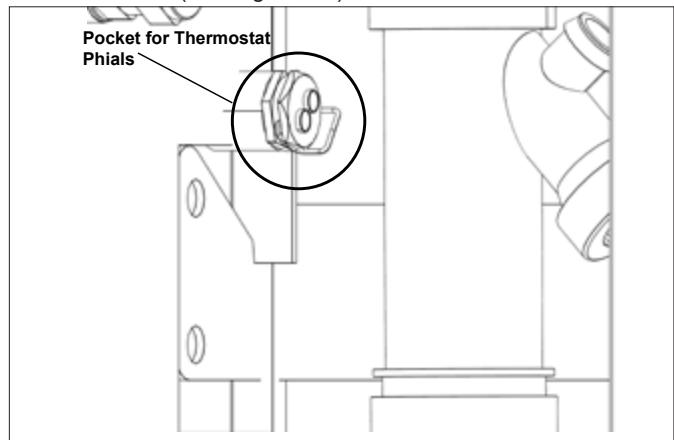

Figure 4-2: Removing thermostat phials
7. Remove retaining clip and thermostat phials from their pocket in the right side of heat exchanger – below the return connection. (See Figure 4-2)